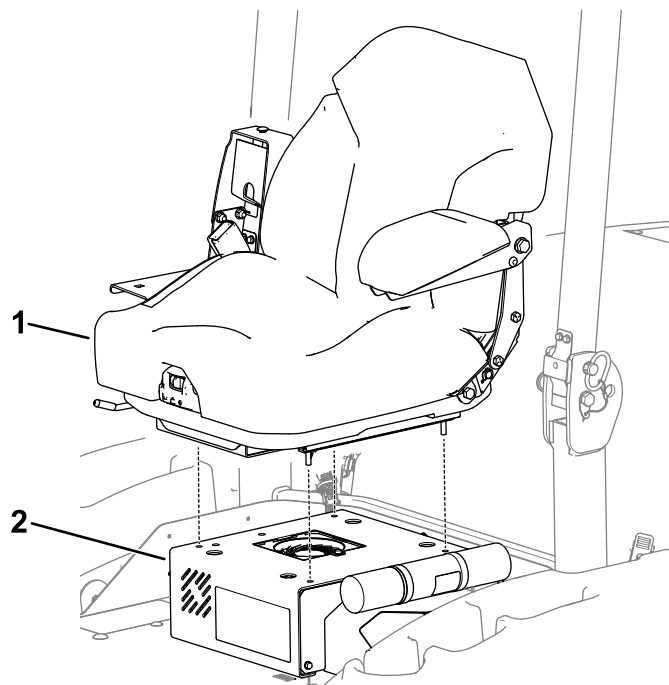

Figura 5
- Nella **Figura 5**, macchine Groundsmaster e3200 o e3300